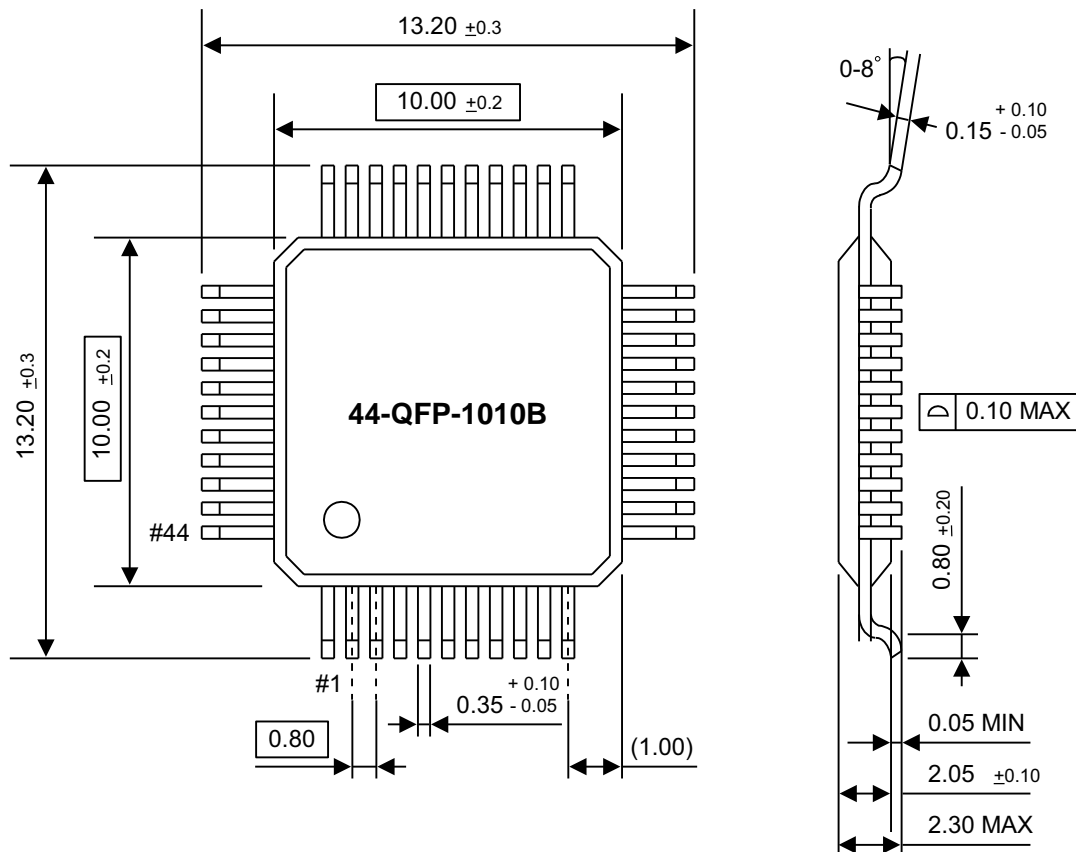

Figure 132. Package Dimensions, 44-Pin QFP Package
The S3F8S5A microcontroller is currently available in 44-pin QFP and 42-pin SDIP packages. A mechanical drawing of the 44-pin QFP package is shown in Figure 132.
► **Note:** Dimensions in Figure 132 are expressed in millimeters.